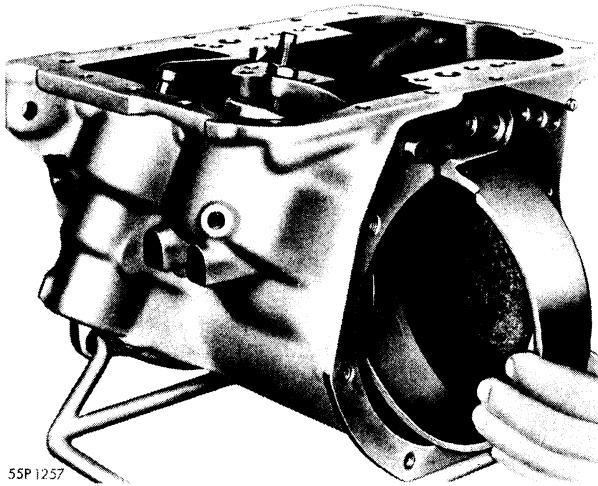

Fig. 93—Removal or Installation of Reverse or Kickdown Band
- (1) Mark the reverse band assembly for installation purposes, then compress ends of band sufficiently to remove the reverse band strut.
- (2) Unhook reverse band assembly from link assembly and remove by rotating band ends through rear opening in transmission case, as shown in Figure 93.
- (3) Compress kickdown band ends sufficiently to remove the kickdown band strut. Note that strut is grooved to act as a guide to the kickdown band strut pin on band end.
- (4) Remove the kickdown band assembly by rotating band ends through rear opening in transmission case, as shown in Figure 93. Both bands have bonded lining and it is suggested that no attempt be made to reline them. The kickdown band is narrower and has a different lining material.
- (5) Make visual inspection of linings for wear and bond to metal band. If linings are worn to the point that grooves are no longer visible, band assemblies must be replaced. Inspect bands for distortion and cracked ends.